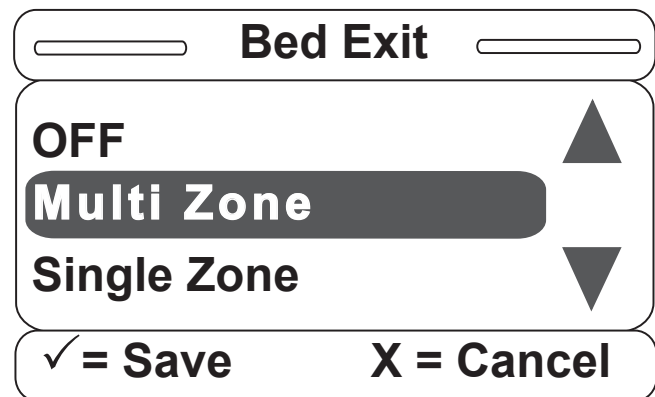

Figure S-12
12. Once the Bed Exit item is selected, the screen in Figure S-12 will be displayed. You can set the Bed Exit Option to Multi Zone or Single Zone. Select Multi Zone or Single Zone and then press “Enter” on the footboard panel. If needed, press “Exit” to cancel the operation.